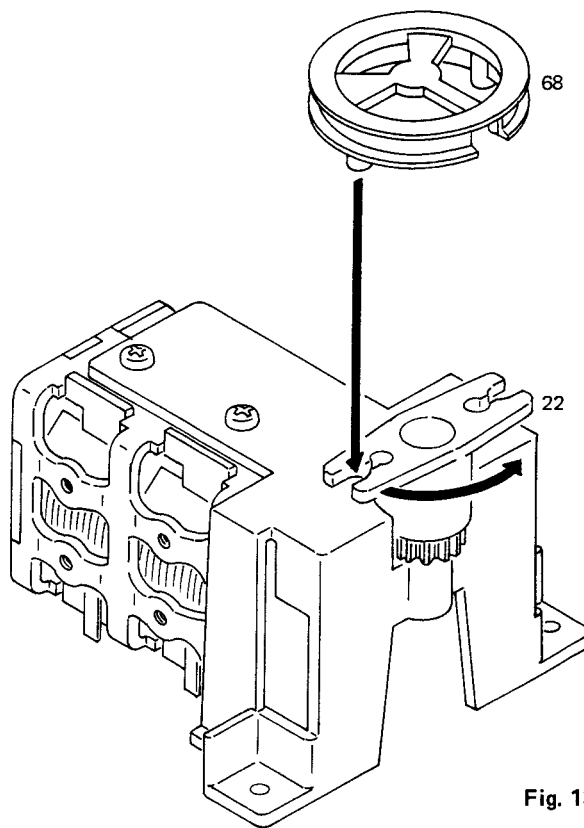

Fig. 13
4. Turn the variable capacitor as far as it moves in the arrow-marked direction (MAX. position). Engage the protrusion on the dial drum (68) with the mating plate of the variable capacitor as in Fig. 13 (note the position of the cut in the drum), paying attention that the mating plate is parallel to the capacitor gears (22).